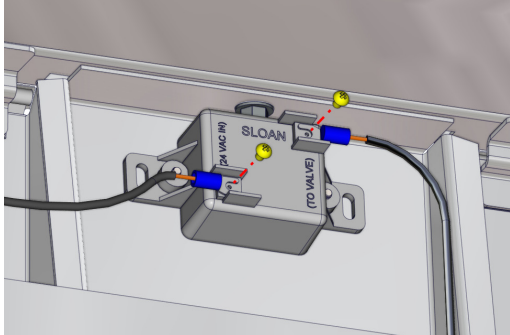

Fig. 4: Unscrew & disconnect wires
2. From the back of the sink, unscrew the 2 small screws securing the wire spade connections to the IR sensors. Set these aside for later use. Disconnect the wire spades from the IR sensors (Fig. 4).